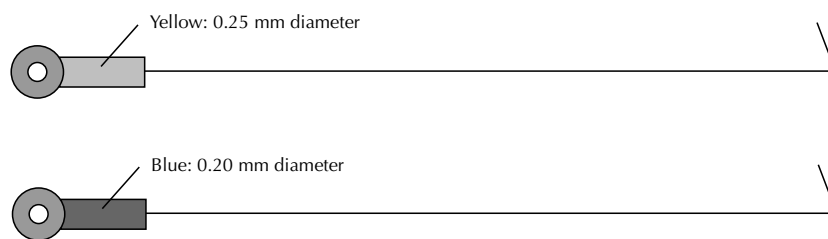

Figure 2-7. Bubble Hooks.
3. Remove any bubbles that form during gel pouring using a bubble hook (Figure 2-7).